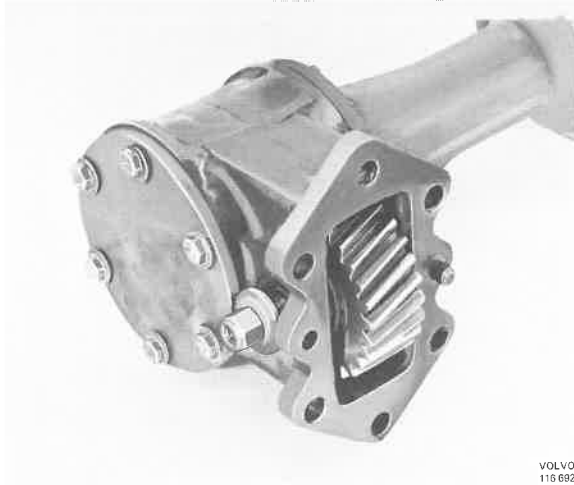

Fig. 46-155 Placing the bolt
16. Coat the bolt head, on the bolt for the drive gear shaft, with sealing agent. Place the bolt in the shaft, and note from the flange side, see Fig. 46-155. Coat the washer with sealing agent and fit it in position. Fit the nut and tighten it to a torque of 20-25 Nm (2,0-2,5 kpm = 14-18 lbftf).